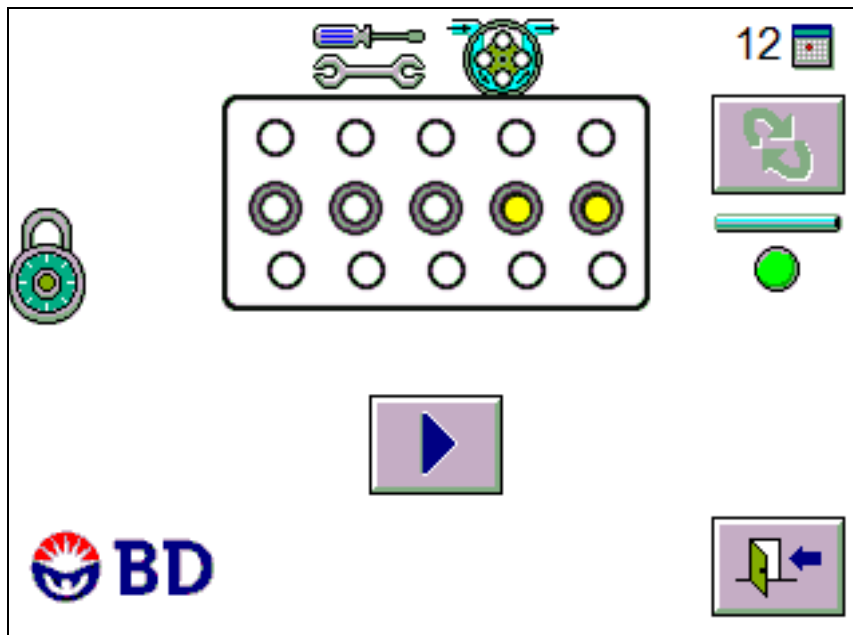

Figure 6-4 – Calibrate Dispense Pump Display
- 3 Set up the ID broth tubes in a Sample rack as shown on the display (Figure 6-4).